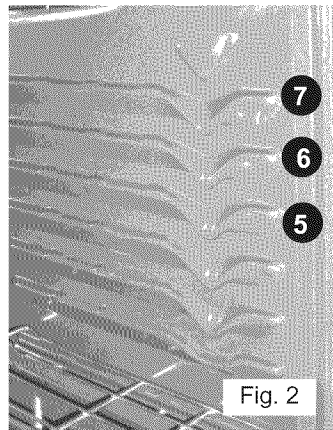

Fig. 2
- When using 2 oven racks at the same time, place in positions 3 & 6 for best results (See Fig. 2)
Broil Rack Position Table (Refer to Fig. 2)